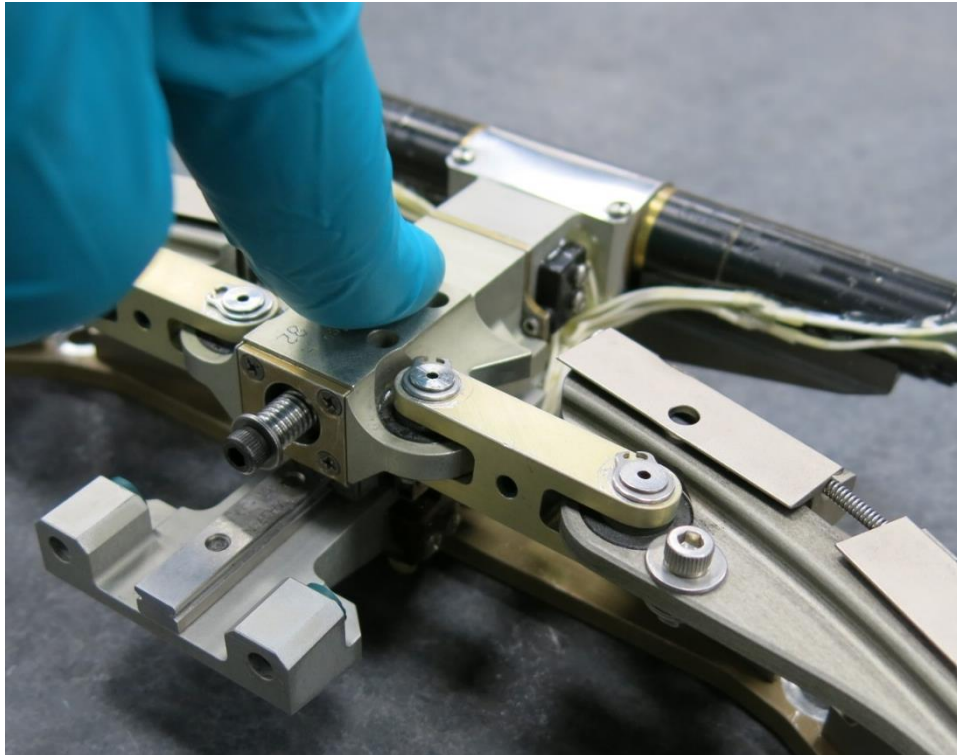
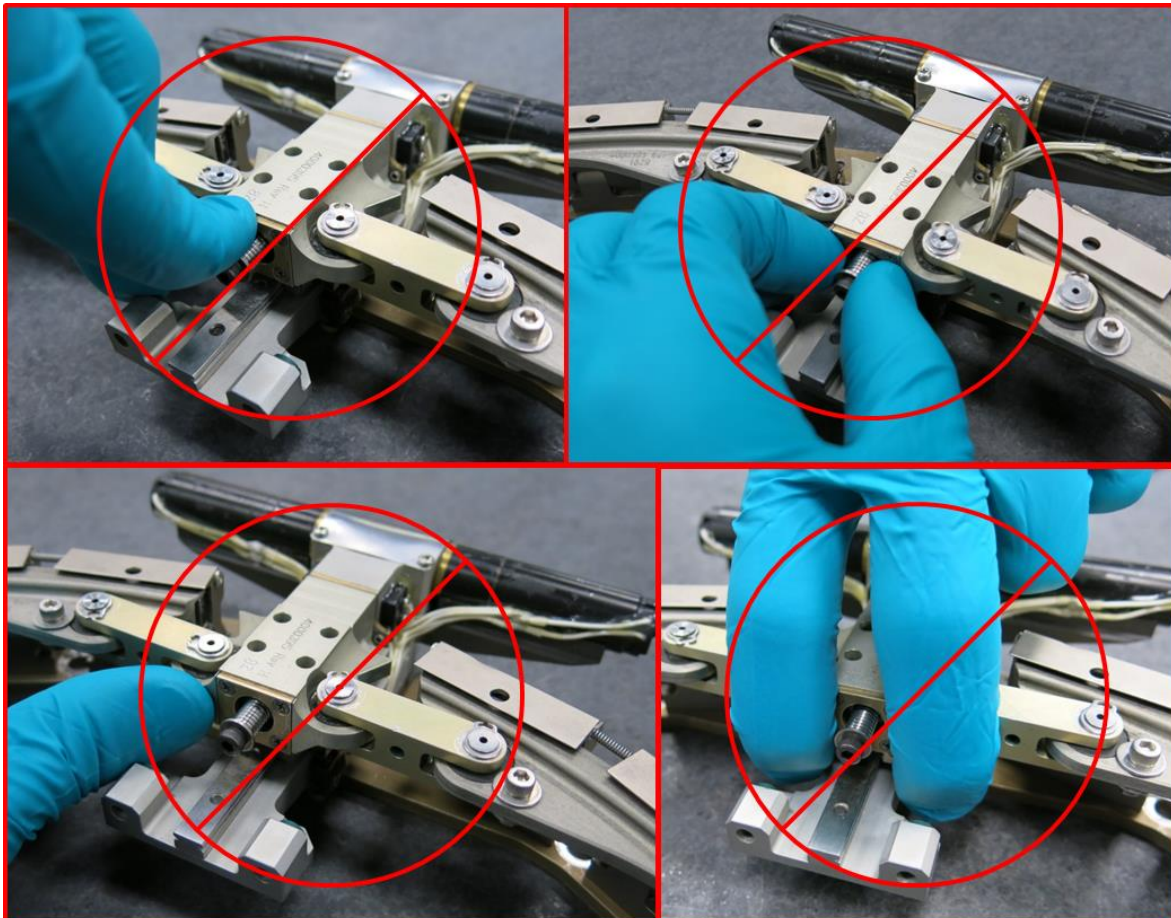

Figure 36: Properly pushing Sliding Tube radially outward
Figure 37: Improperly pushing Sliding Tube radially outward
11.1.10	Manually push the Sliding Tube radially outwards (towards the motors) with one finger when the power is applied to the Lightband. See Figure 36. Ensure nothing is touching the Ball Screw and that your finger is not on the surfaces shown in Figure 37.